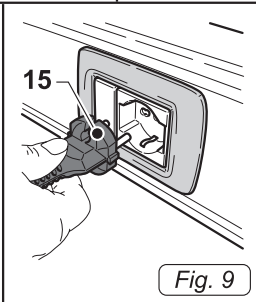

Fig. 9
- Insert the plug (15 Fig. 9) into the socket.
- Remove the plug (15 Fig. 9) from the socket.